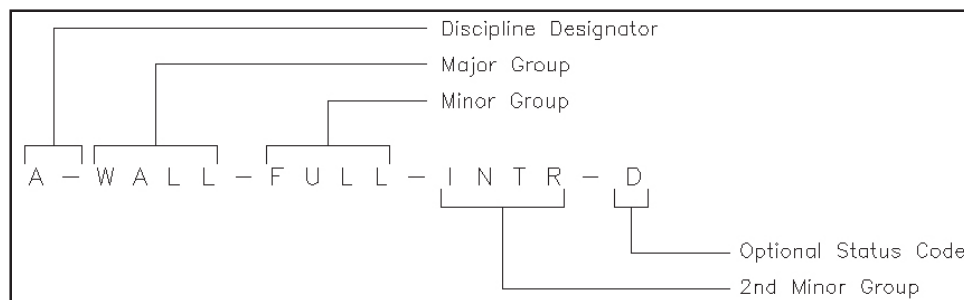

Figure 4-3. Level/layer naming format.
The reuse of graphic information reduces drawing time and improves project coordination. The level/layer is the basic tool used in CAD for managing graphic information (Figure 4-3). The levels/layers defined within this standard are based on the recommendations set forth in “AIA CAD Layer Guidelines” (AIA 2011).
**Status (Phase) levels/layers.** In some cases, levels/layers may be modified to show the status of a particular item in the drawing (e.g., to be demolished, to be moved, future work, etc.). In these cases, levels/layers may have a Status code appended to them as shown in Figure 4-3. See Table 4-1 for the Status (Phase) codes.